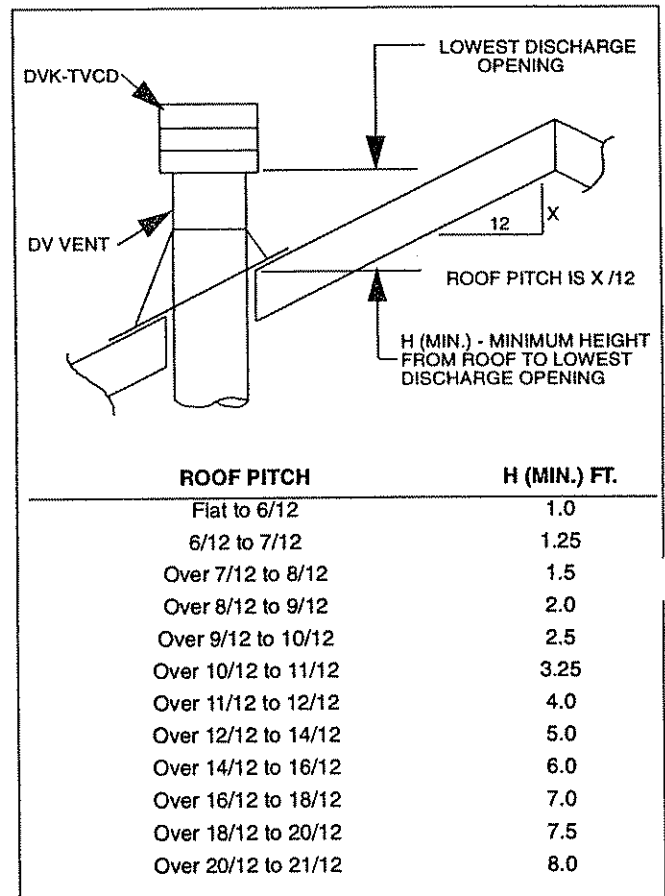

Fig. 19. Vertical venting.
**WARNING:** Major U.S. building codes specify minimum chimney and/or vent height above the roof top. These minimum heights are necessary in the interest of safety. Some applications may require a greater height for proper operation, which may require the Ten Foot Rule or greater. These specifications are summarized in Fig. 19.